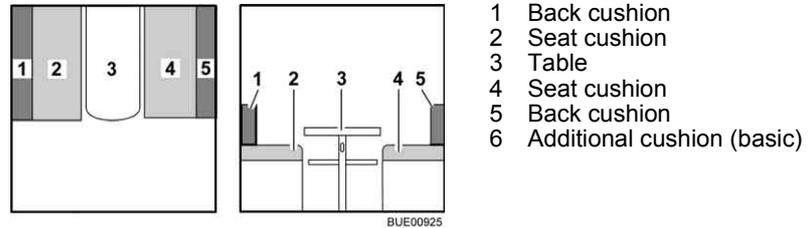

Fig. 86 Prior to conversion
- Convert the table (Fig. 86,3) to a bed foundation (see section 6.12).